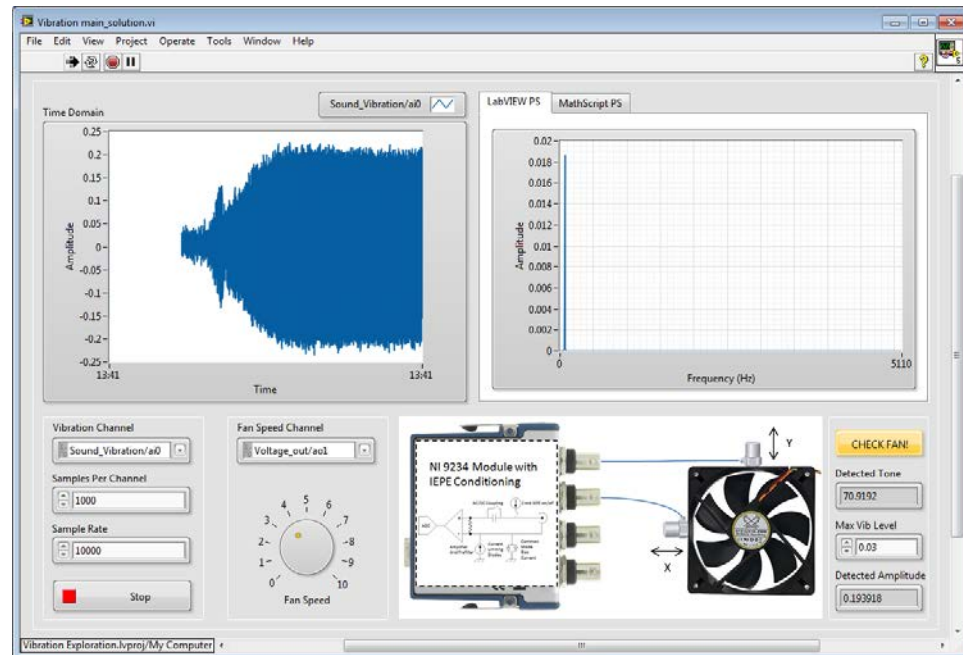

Figure 6. This VI will acquire a time-domain vibration signal and calculate the frequency content using both LabVIEW VIs and MathScript.
14. Through the rest of this exercise you will build the VI in Figure 6. Ensure that the switch on the Sound and Vibration Signal Simulator is flipped to BNC. Press the run button.